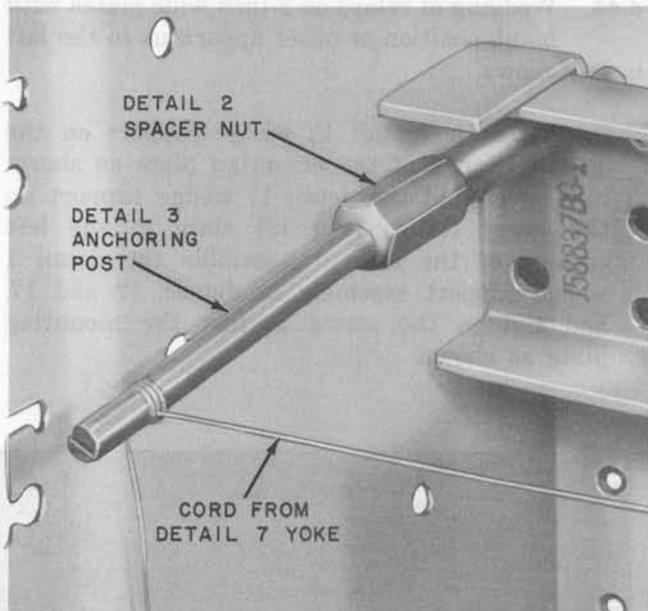

Fig. 16—Detail 3 Anchoring Post Inserted in Left Detail 2 Spacer Nut
- (i) Insert the detail 3 anchoring post into the left detail 2 spacer nut and hand tighten. (See Fig. 16).
4.55 Tie detail 7 yoke assembly (Fig. 22) to detail 3 (Fig. 16) anchoring post using lock stitch. Pull only tight enough to release the pressure of the spring assembly against the core plate of the relay and tie. Clamp spring can now be released.